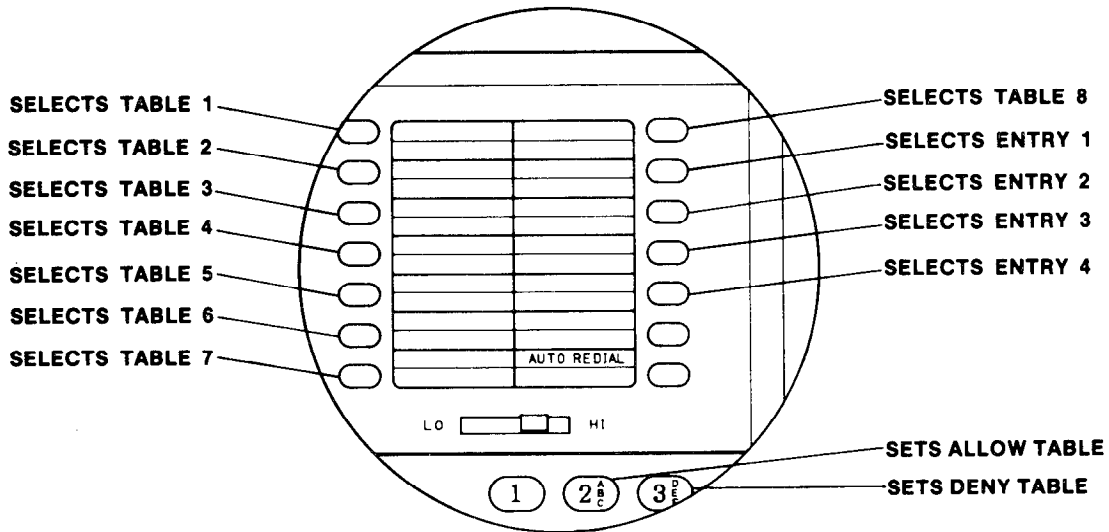

Figure 7. Toll Restriction Programming Keys
12. Select the toll restriction table entries (model 616B only). Refer to the programming table (Table 2d) found at the end of the chapter to preselect the entry requirements. Figure 7, shown below, illustrates the keys and keys used to perform the toll restriction table entries.